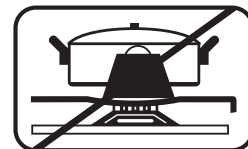

Fig.3
- Do not use large pots or heavy weights which can bend the pan support or deflect the flame onto the top plate. (Fig 3)